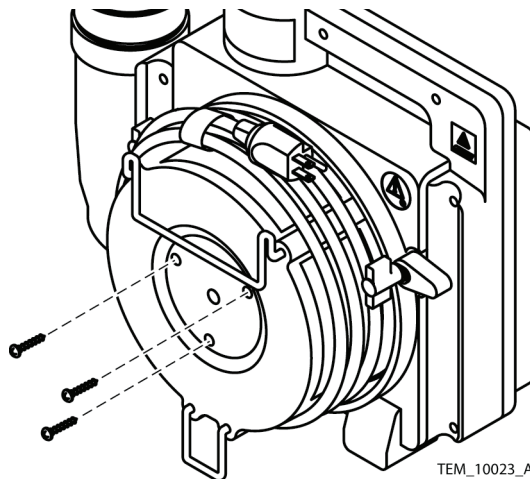

Figure 84. Filter Cover Installation
52. Install the filter cover assembly on the rear cover assembly. Tighten the screws to 8 to 12 in/lbs (20 to 30 cm/kg). See Figure 84.